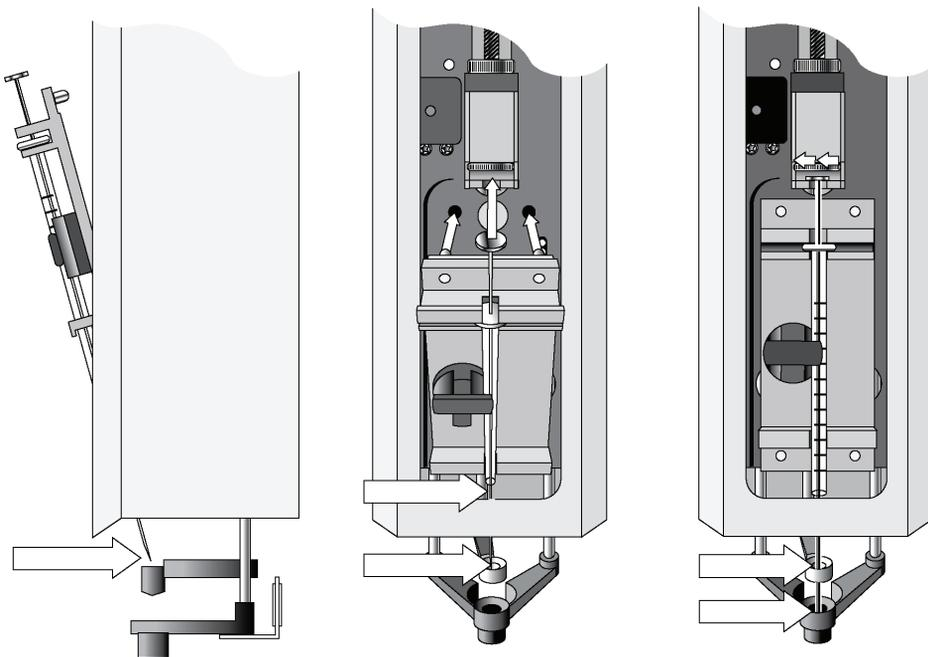

Figure 30 Installing and Removing a Syringe for Liquid Injections
- 5 Move the syringe, installed in the syringe adapter, partially into the Injection Unit. First, guide the needle into the upper needle guide and then into the lower needle guide (see Figure 30 on page 73).